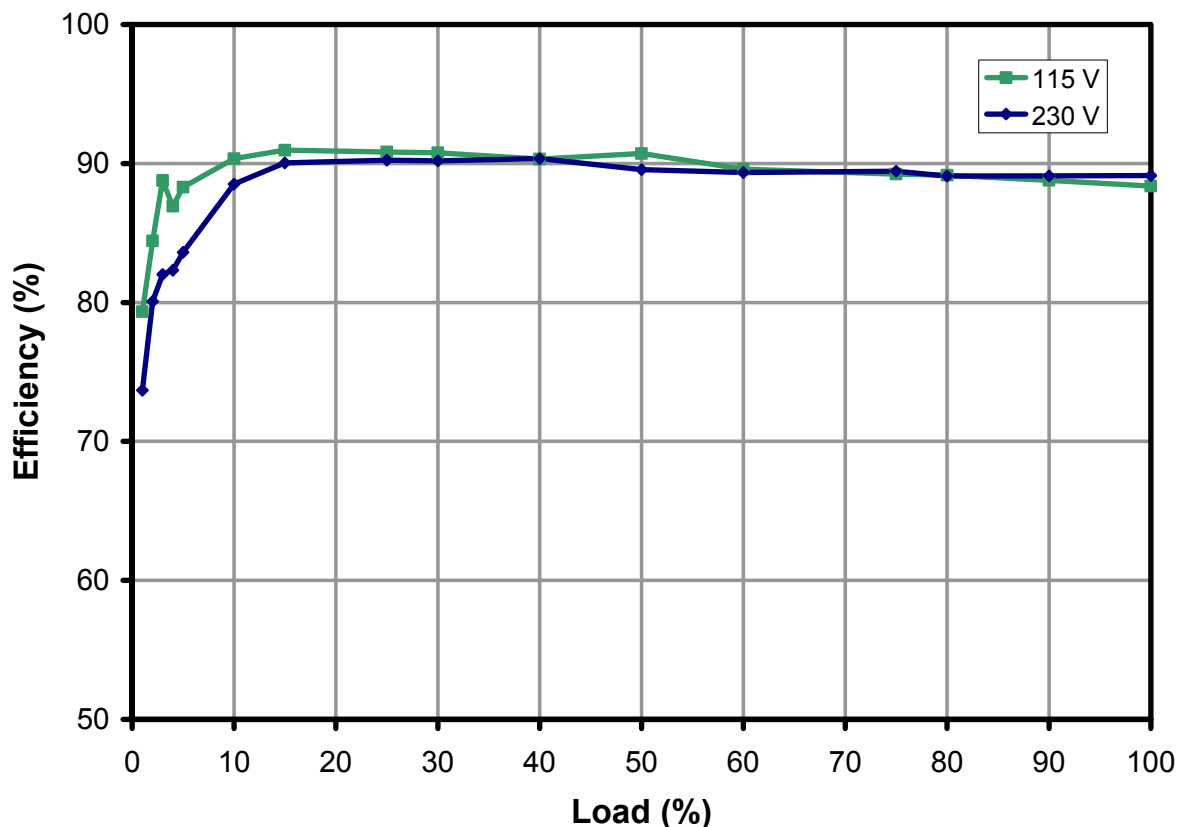

Figure 19 – Efficiency vs. Input Voltage, Room Temperature, 60 Hz.
**Table 1** – Data at 115 VAC / 60 Hz for Figure 19.
**Table 2** – Data at 230 VAC / 50Hz for Figure 19.